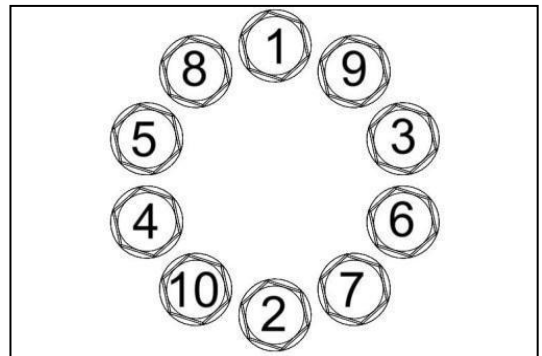

Figure 138
5. Tighten the bolts in two steps in the following sequence (Figure 138):